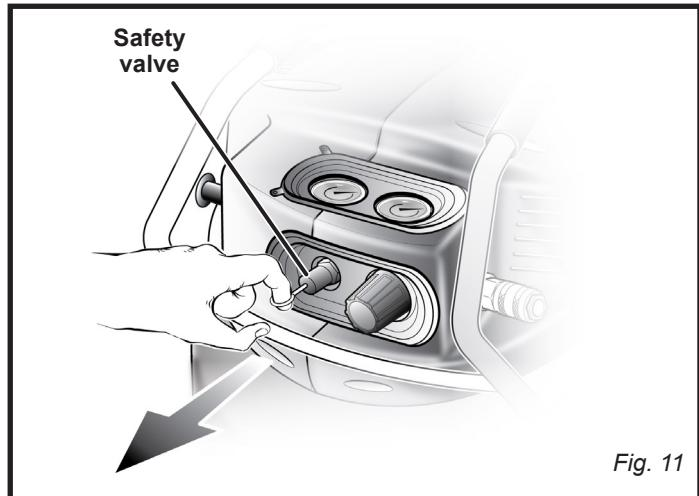

Fig. 11
See figure 11.
- Pull the ring on the safety valve (fig. 11) to release air for twenty seconds.